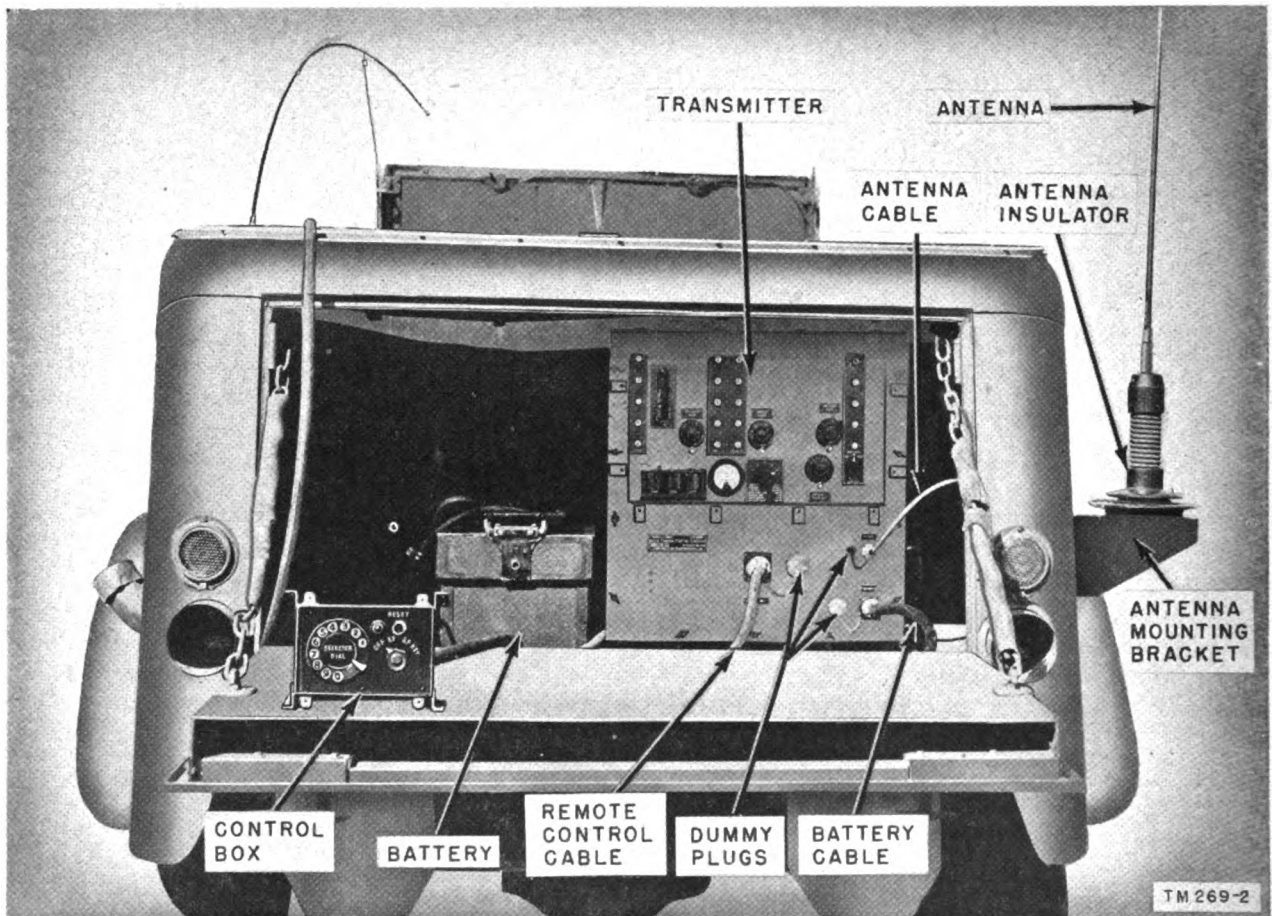
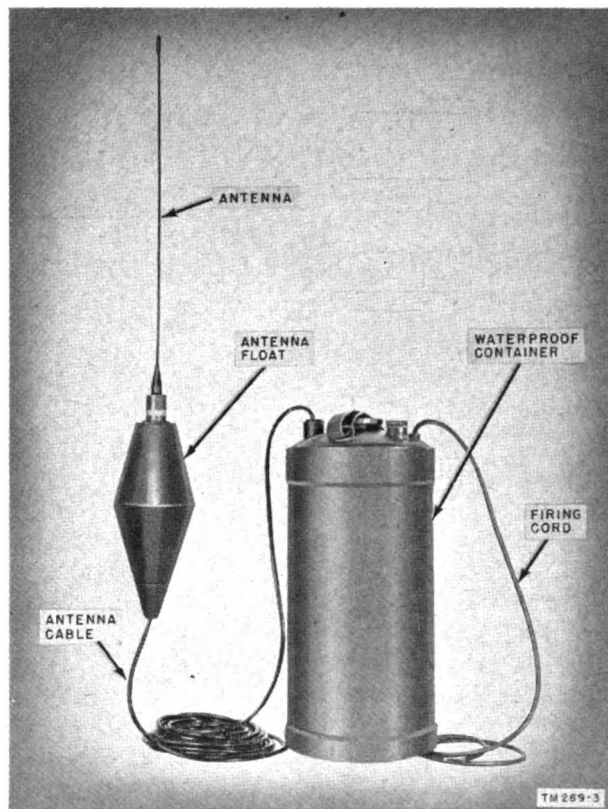

Figure 2. Radio Set AN/TRT-1, components identified.
Figure 3. Radio Set AN/TRR-2, components identified.
Radio Set AN/TRT-1 (fig. 2) is a radio transmitter which is used in conjunction with Radio Set AN/TRR-2 (fig. 3), a receiver. The two equipments comprise a system for the remote detonation of land and water mines. The receiver is connected to the detonating device of a mine and is left in operation. One transmitter may be used in conjunction with a large number of receivers. A system of selective detonation is used which permits the detonation of any particular mine (or group of mines) at will. In operation, the transmitter emits an r-f (radio-frequency) signal which is modulated by a series of a-f (audio-frequency) pulses. To prevent detonation of the mine by stray signals or by enemy-radiated signals, the receiver is designed so that it causes the detonator to operate
a. RADIO SET AN/TRT-1 (fig. 2).
b. RADIO SET AN/TRR-2 (fig. 3).